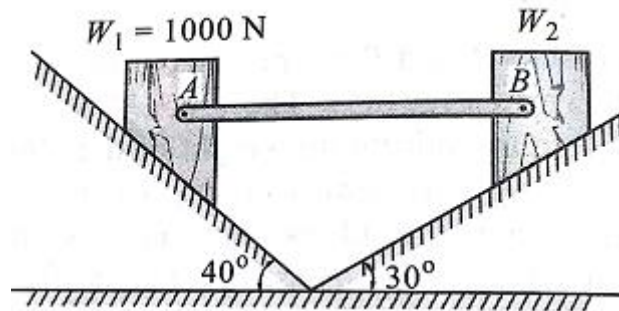

Fig.8
6. Two blocks W_1 and W_2 resting on two inclined planes are connected by a horizontal bar AB as shown in Fig.8. If W_1 is equals 1000 N, determine the maximum value of W_2 for which the equilibrium can exists. The angle of limiting friction is 20° at all rubbing faces. [10 M]